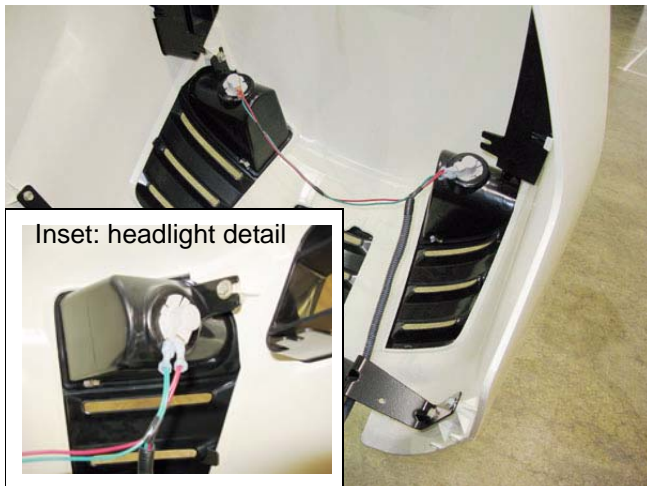

Figure 4.2
3. Disconnect the headlight wires. See Figure 4.2.